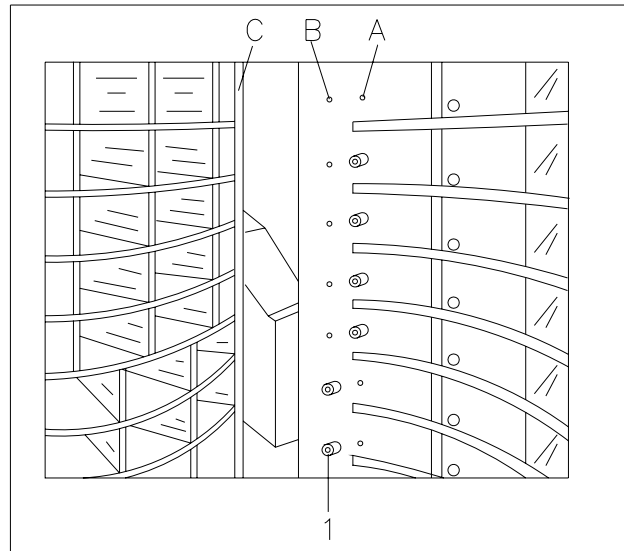

FIG. 11
The machine is delivered with compartment sizes pre-set as shown in FIG. 9. The number of compartments can be altered by removing or adding divider blades. The number of spaces for each drum can be: 6, 12, 18. When the number of spaces is altered, the position of the delivery door stop Ref. 1 FIG. 11 must be modified so that size of the door opening corresponds to the size of the altered compartments.
- a) Screw the stop pos.1 FIG. 11 into hole -A- for divisions with 18 spaces.
- b) Screw the stop pos.1 FIG. 11 into hole -B- for divisions with 12 spaces.
- c) Remove the stop pos.1 FIG. 11 so that the delivery door strikes on bracket C for divisions with 6 spaces.